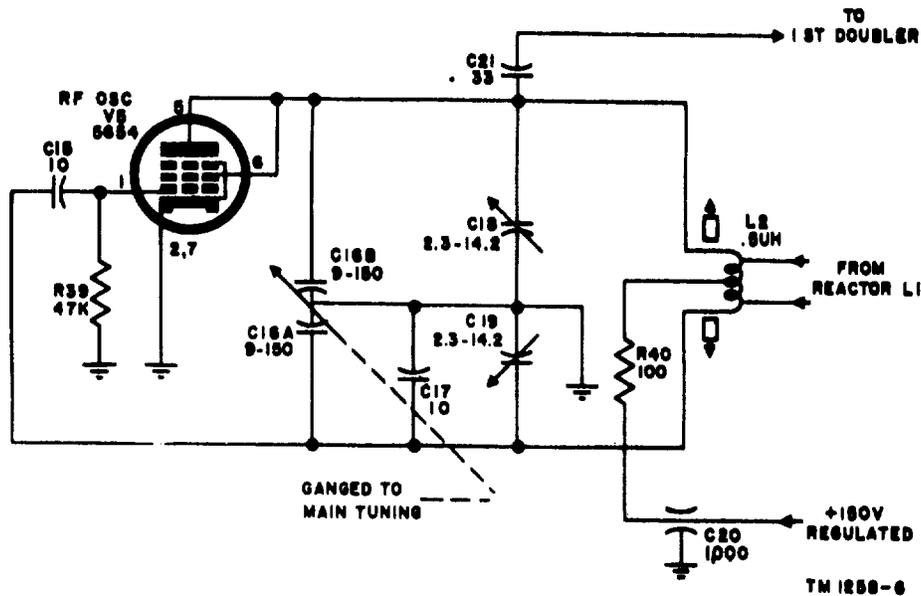
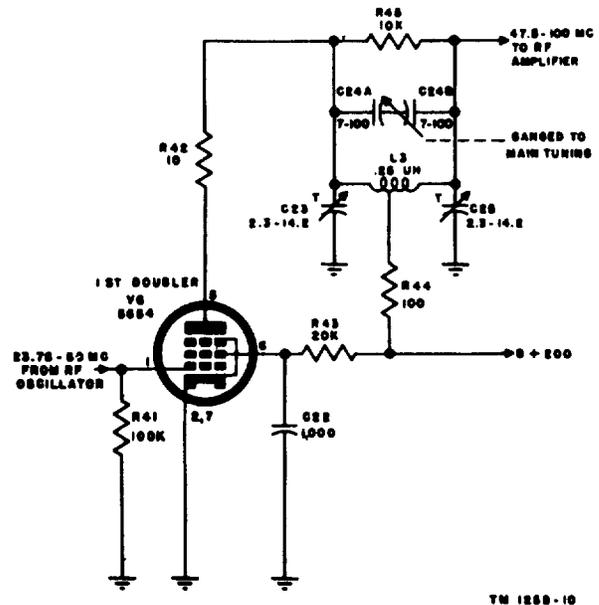

Figure 9. Rf oscillator circuit.
Figure 11. First doubler stage.
a. The rf oscillator circuit (fig. 9) uses a type 5654 rf pentode connected as a triode in a circuit equivalent to a Colpitts oscillator. The oscillator has a frequency range of 23.75 to 50 mc. The frequency of oscillation is determined by the tank circuit consisting of center-tapped inductance L2, trimmer capacitors C18 and C19, split-stator main tuning capacitor C16A and C16B, and capacitor C17. The in-phase feed-back voltage necessary to sustain oscillation is coupled by C15 to the grid of V5. Assume that a positive signal voltage appears at the grid of V5. After amplification by V5, the signal voltage with respect to ground is negative at the plate side of L2 and positive at the grid side. This is because the junction of tuning capacitor C16A and C16B is connected to ground. The signal voltage across C16A and the lower half of L2 is, therefore, of the proper polarity to reinforce the existing signal voltage at the grid of V5. The amount of feed-back voltage coupled to the grid circuit is determined by the ratio of capacitance between the grid side to ground and from the plate side to ground in the
a. The signal output of the rf oscillator is coupled by C21 (fig. 9) to the grid of first doubler V6 (fig. 11). Grid current flowing through grid return resistor R41 produces the necessary self-bias.